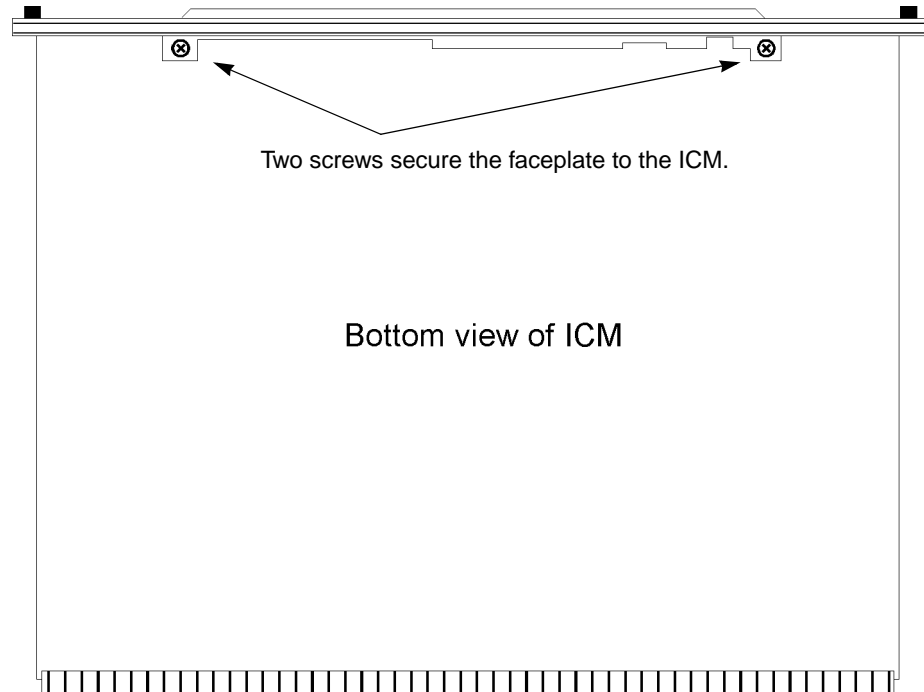

Figure 6-13. Bottom view of ICM
3. Use a #2 Phillips head screwdriver to remove the two recessed screws that attach the faceplate to the ICM. See Figure 6-13 for the screw locations
5. Align the faceplate on the front of the ICM, and use a #2 Phillips head screwdriver to replace the two recessed screws that attach the faceplate to the ICM. See Figure 6-13 for screw locations.
3. Use a #2 Phillips head screwdriver to remove the two recessed screws that attach the faceplate to the ICM. See Figure 6-13 for screw locations.
4. Align the faceplate on the front of the ICM, and use a #2 Phillips head screwdriver to replace the two recessed screws that attach the faceplate to the ICM. See Figure 6-13 for the screw locations.